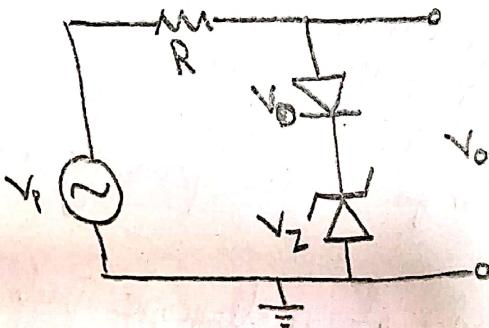

Fig. 1 : Positive Clipper
1. Connect the circuit as shown in fig. 1 with  $R = 2.2\text{ k}\Omega$ .
3. Connect the function generator output to the circuit as shown fig. 1.